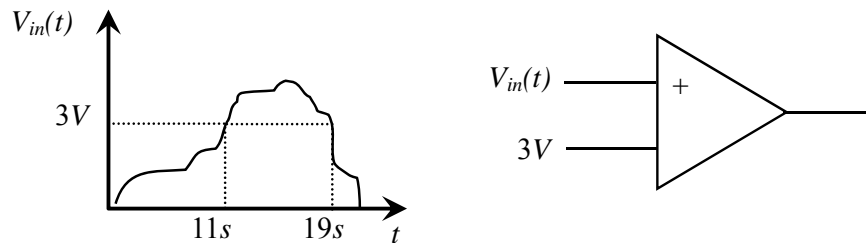

Fig. Q7
- (b) Consider the comparator circuit shown in Fig. Q7. Sketch the comparator output waveform for the given input waveform. Indicate clearly the timing and voltage information. You may assume that the maximum and minimum output voltages of the comparator are +5V and -5V, respectively.